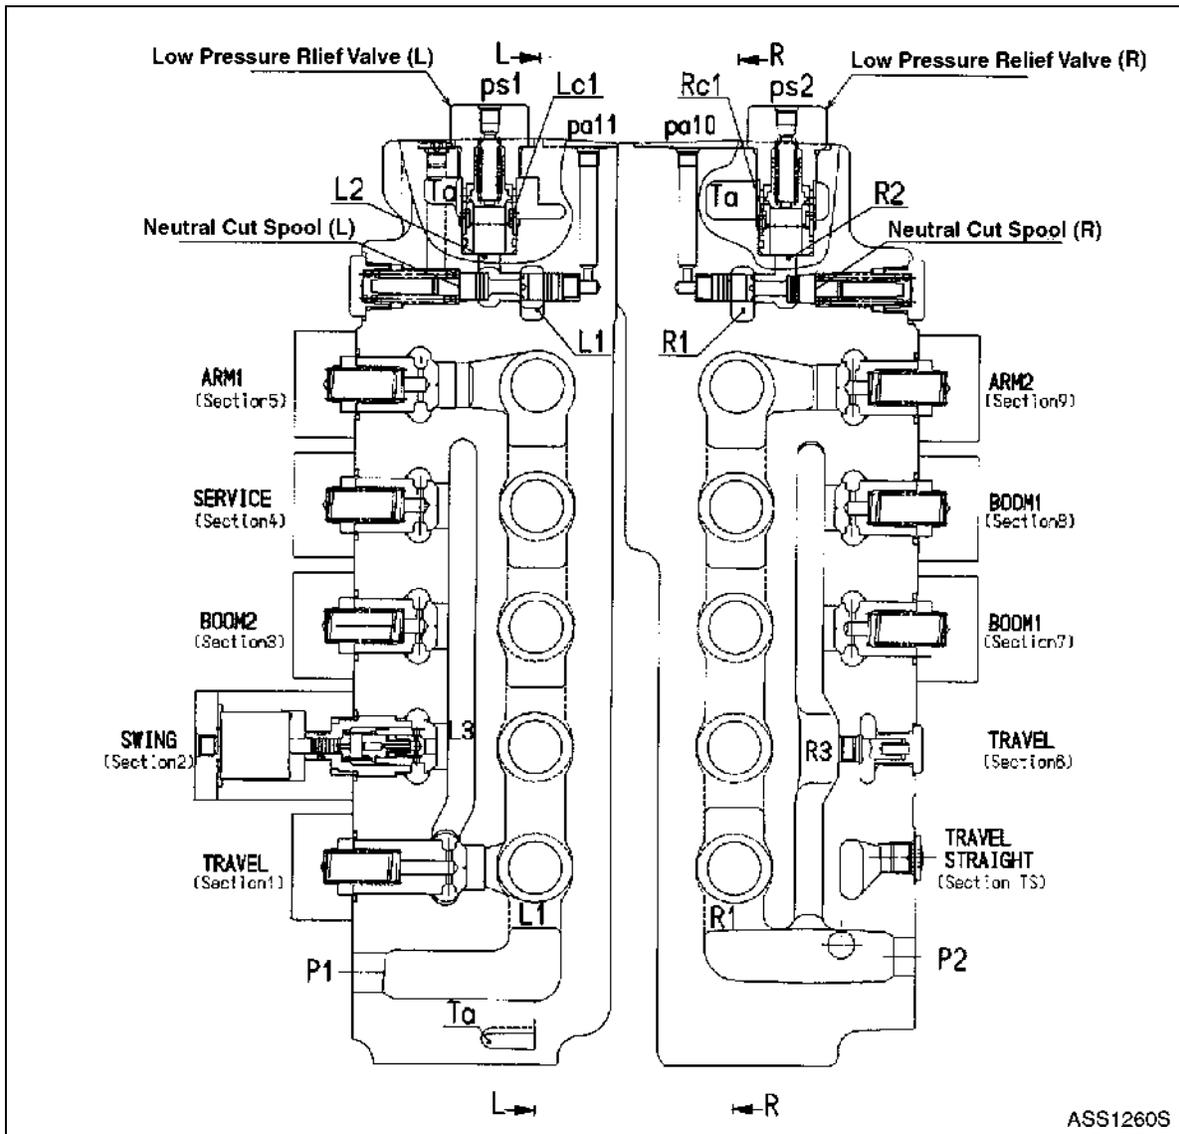
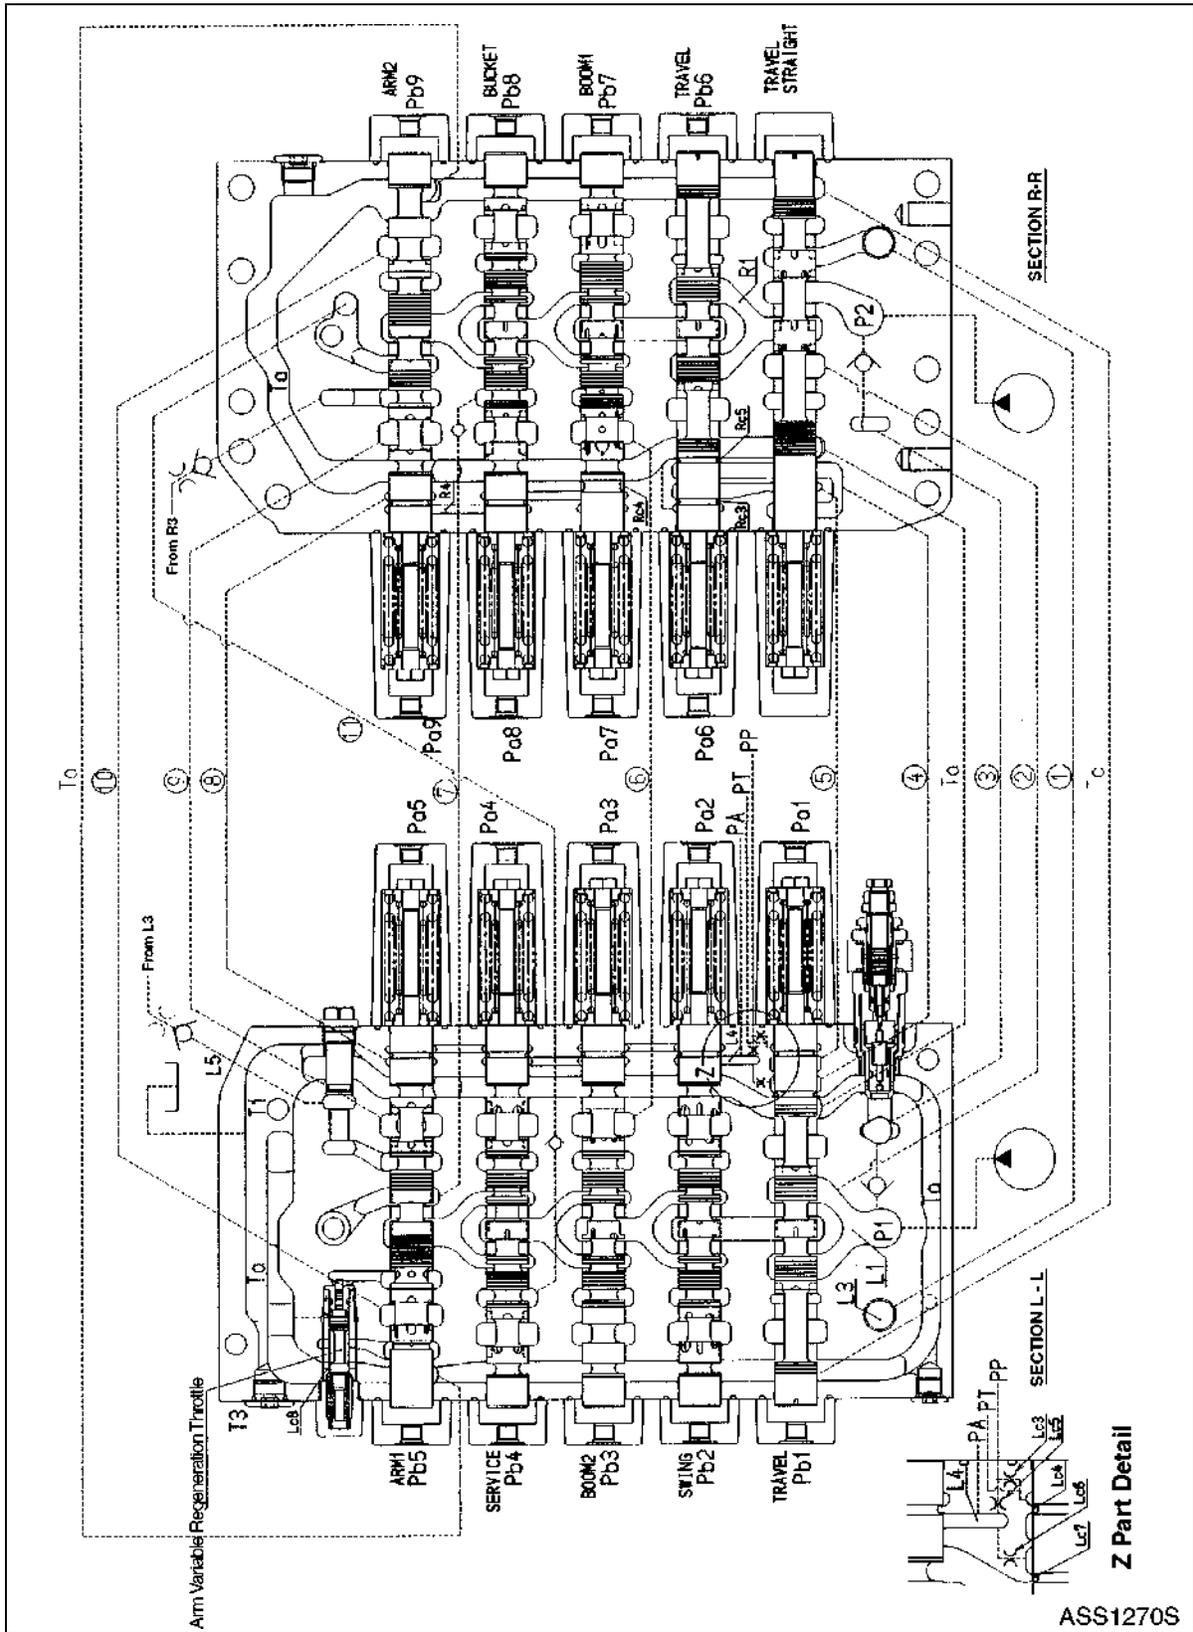

Figure 1
Figure 2
### Neutral Passage (Figure 1 and Figure 2)
### Signal Passage (Figure 2)
1. Oil supplied to port (PP, Figure 2), after passing through orifice (Lc3), is divided into two flows. One flow is sent to port (PT), and the other flows through land (Lc4) and passage (5) to land (Rc3) and into tank passage (Ta).
2. The same oil supplied from port (PP), after passing through orifice (Lc5), flows partly to port (PA) and passes partly through passages (L4), (8) and (R4), to boom spool 1 land (Rc4) and flows into tank passage (Ta).
3. The oil passing through orifice (Lc6) flows partly from land (Lc7), to tank passage (Ta), and passes partly through passage (4) to travel spool land (Rc5) and flows into tank passage (Ta).
1. When spare spool is shifted by increasing pressure of spare (section 4) pilot port (Pb4 (Pa4)), neutral passage (L1) is closed. Oil supplied to port (P1) flows through, parallel passage (L3), load check valve (S4-1), passage (S4-2), and spool, into port (B4 (A4)). When neutral-cut spool (R) is shifted by increasing pressure of port (pa10) (Figure 1) also, oil supplied from port (P2) flows through passage (11), and poppet (S4-3), it then joins with passage (S4-2). Return oil returns through port (A4 (B4)) and spool to tank passage (Ta).
1. When bucket spool is shifted by increasing pressure of bucket (section 8) pilot port (Pb8 (Pa8)), neutral passage (R1) is closed. Oil supplied to port (P2), flows through, parallel passage (R3), load check valve (S8-1), passage (S8-2), and spool, into port (B8 (A8)). When neutral-cut spool (L) is shifted by increasing pressure of port (Pa11) (Figure 1) also, oil supplied from port (P1) flows through passage (7) and poppet (S8-3), it then joins with passage (S8-2). Return oil returns through port (A8 (B8)) and spool to tank passage (Ta).